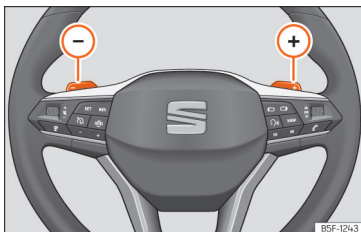

Fig. 89 Steering wheel: automatic gearbox levers
- Press the **+** gear shift paddle to change up a gear **»» Fig. 89**.